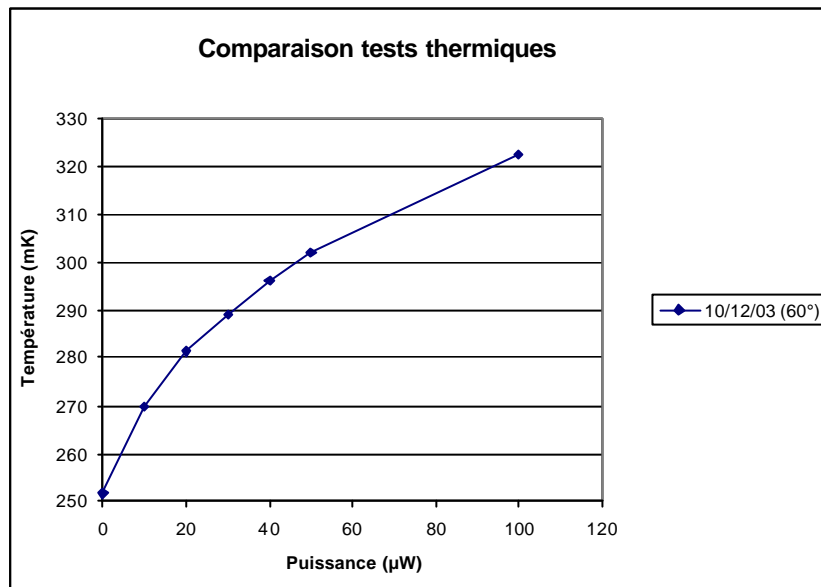

Figure 4-1 – SPIRE CQM Cooler Measured Cold Tip Temperature [RD1]
- The cooler cold tip temperature during operation can be predicted using the blue curve in Figure 4.1 [RD1].